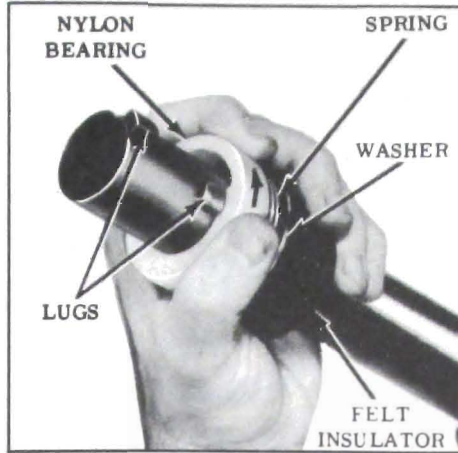

Figure 8-86—Installing Nylon Bearing
2. Install spring and nylon bearing on control shaft. Position bearing so that the second location lug holds the bearing and spring in place. See Figure 8-86.